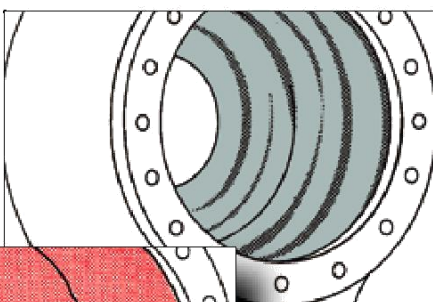

Figure 3
3. Fill all gouges, greater than 1/8" in worn areas, with mixed **Titanium Putty # 10760** or **Ceramic Repair Putty #11700** compound. Use spatula or putty knife to smooth the surface. A simple technique is to wet your hand and gently rub the palm over the epoxy in a circular motion (Figure 3).